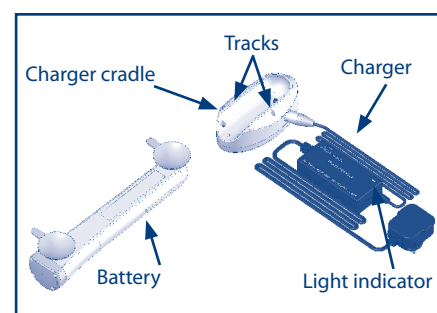

Figure 2
- A battery (see fig 2)
- Battery charger and charger cradle attached (see fig 2)
- Slide the battery into the track on the charger cradle until it clicks into place (see fig 2).
- The light indicator on the charger box will initially flash in a quick sequence of red, green, red, green, before a constant red light appears to indicate charging is in progress (see fig 2).